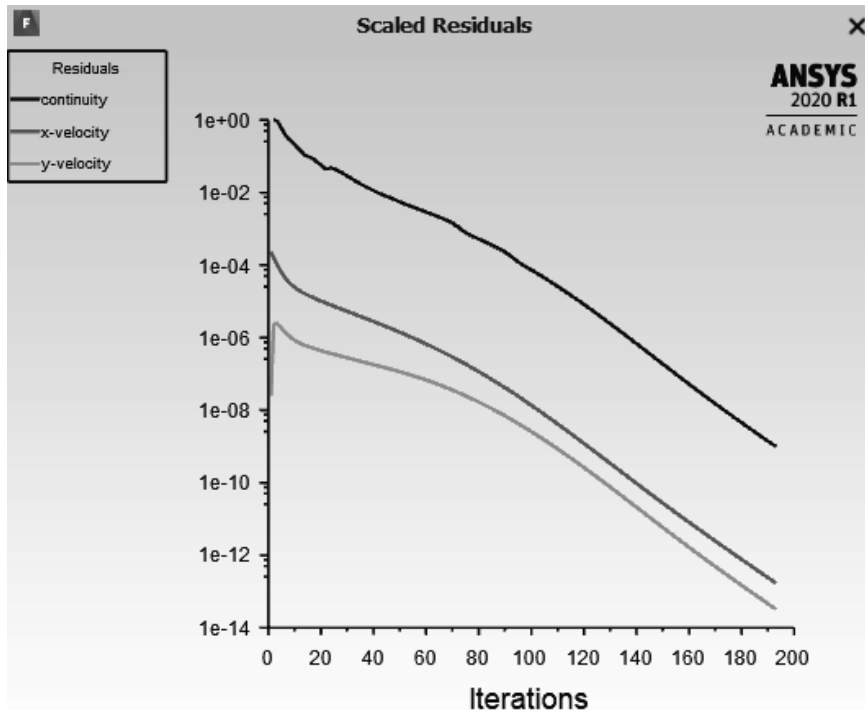

Figure 2.12b) Scaled Residuals
**Why did we set the Absolute Criteria to  $1e-9$ ?** Generally, the lower the absolute criteria, the longer time the calculation will take and give a more exact solution. We see in Figure 2.12b) that the  $x$ -velocity and  $y$ -velocity equations have lower residuals than the continuity equation. The slopes of the residual curves for all three equations are about the same with a sharp downward trend.